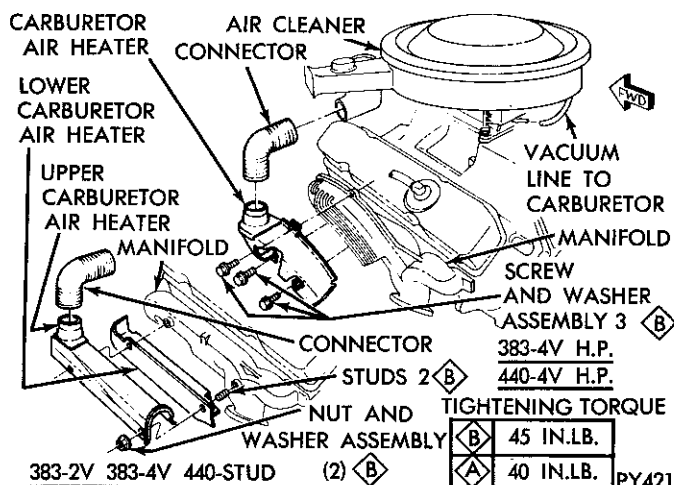

Fig. 3—Carburetor Air Heater
- (1) Disconnect flexible connector between air cleaner and air heater (Fig. 3).
- (2) Remove stud nuts attaching carburetor air heater to exhaust manifold.
- (3) Remove upper half of carburetor air heater by lifting straight up.
- (4) Slide lower half of carburetor air heater off studs and away from exhaust manifold.
- (8) With counterweight end of shaft positioned 1,240 inches (previously identified) away from manifold, valve plate centered between seals and valve plate closed (Fig. 3).
- (9) Arc weld valve plate to shaft with stainless steel rod. **Arc welding ground must be made at counterweight.**
- (10) Test for free operation. Install anti-rattle spring.